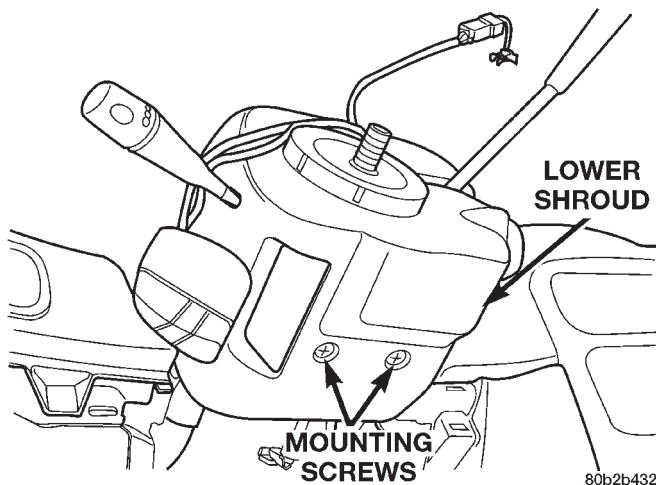
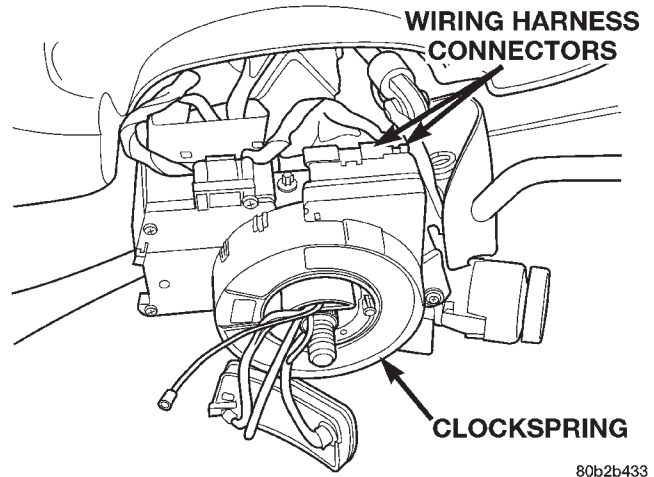

Fig. 15 Lower Shroud Attaching Screws
Fig. 16 Wiring Harness Connection To Clock Spring
(20) Remove the 2 screws attaching the lower shroud to the steering column (Fig. 15). Remove the lower shroud from the steering column.
(21) Remove the wiring harness connectors (Fig. 16) from the clockspring.
(12) Install the wiring harness connectors (Fig. 16) on the clockspring.
(13) If removed, install the trim ring for the key cylinder on the lock cylinder housing.
(14) Install the lower shroud (Fig. 15) on the steering column. Install and securely tighten the 2 screws attaching the lower shroud to the steering column.